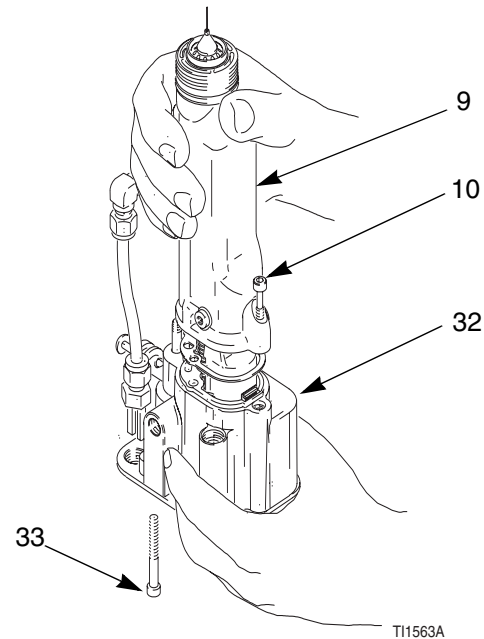

Fig. 28. Barrel Removal
2. Remove the air cap, page 34. Remove the gun shroud (2).
3. Carefully loosen the fluid fitting nut (20). Pull the tube (19) out of the fitting (23). Make sure both ferules (21, 22) and the nut stay with the tube.
4. Remove the jam nut (28) and actuator arm (29). See page 38.
5. Loosen the three screws (10, 33). See FIGURE 28.
6. Hold the gun body (32) with one hand and pull the barrel (9) straight off the body. See FIGURE 28.